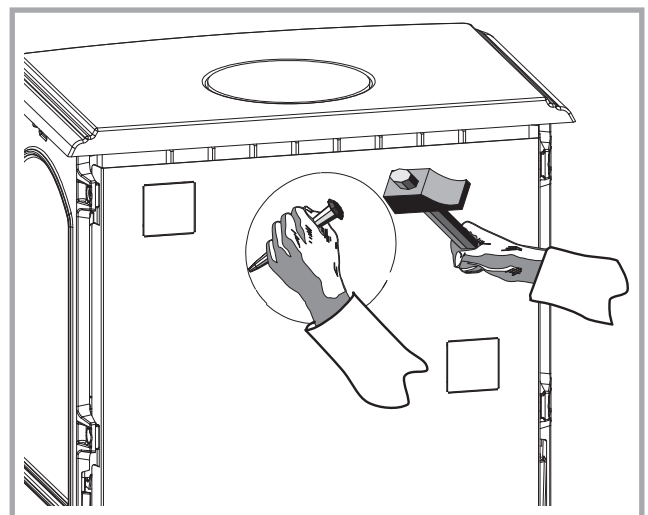

Figure 5 - Cut-out in the rear heat shield
- Remove the flue precut part in the heat shield (figure 5).